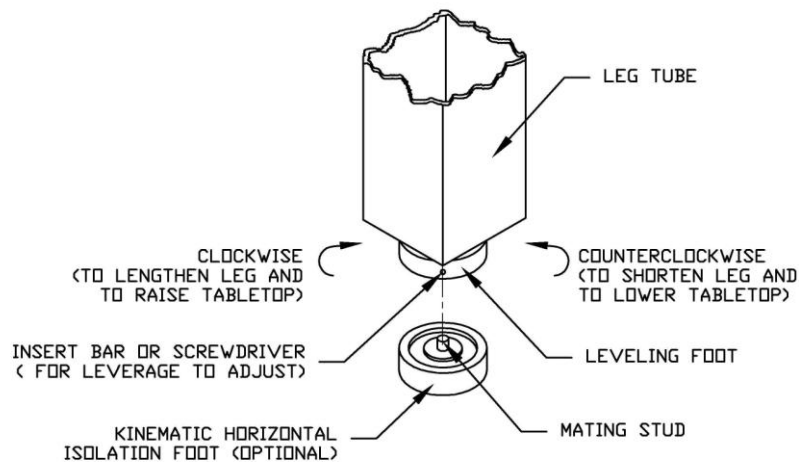
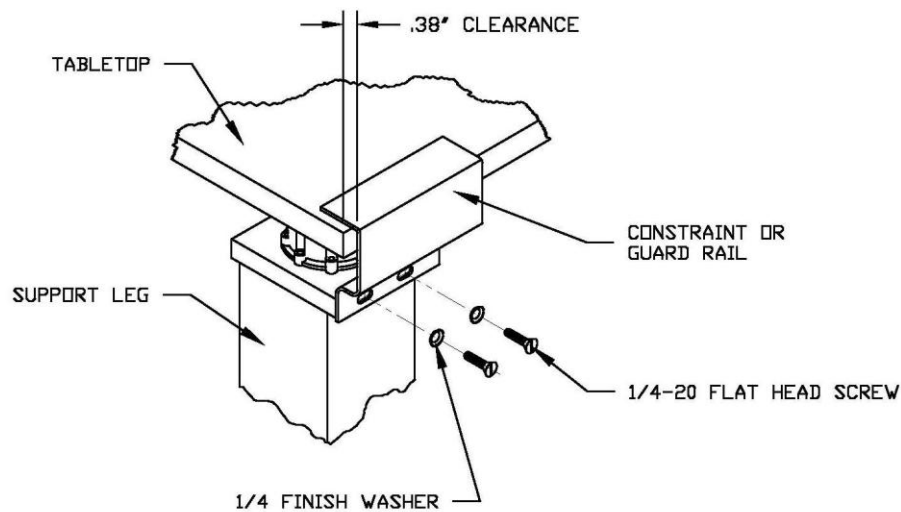

Fig. 2 Leg Height Adjustment
Fig. 3 Installation of Constraint (1202 only) or Optional Guardrail(s).
1. Carefully remove all shipping materials (metal strapping, cardboard, etc.). Additional parts such as four (4) Constraints (1202 only), optional Guardrails, or optional Kinematic Horizontal Isolation Feet have been packed separately inside the shipping container. Set these parts aside for later installation.
2. Remove the protective wood blocks from the bottom of each leg. The four (4) mechanical Leveling Feet are fully retracted for shipping. Rotate each foot **CLOCKWISE** (see Fig. 2) so that it extends $\frac{3}{4}$ " below the bottom of the leg.
4. If you have ordered the optional Kinematic Horizontal Isolation Feet, these should be unpacked and installed now (as shown in Fig. 2). Raise each leg one at a time and insert the projecting stud of the Kinematic foot into the mating hole at the bottom of the Mechanical Leveling Foot. Be sure the Kinematic Foot and the Mechanical Leveling Foot are in perfect alignment.
7. Unwrap the four (4) Constraints (1202 only) or optional Guardrail(s). Hold the Constraints or Guardrails in place, and check for adequate clearance along the edges of the Tabletop. Reposition the Tabletop if necessary.
8. Remove the eight (8) 1/4-20 Flat Head Screws and Finish Washers screwed in at the top of each leg (2 per leg). Remove the white protective paper from the VISCODAMP material laminated on the four (4) Constraints or optional Guardrail(s), and bolt them securely in place as shown in Fig. 3, using the Screws and Finish Washers removed from the legs.
10. If an out-of-level condition is detected, adjust the Leveling Foot by inserting a thin rod or screwdriver (as shown in Fig. 2) into the hole on the side of the Leveling Foot. Rotate COUNTERCLOCKWISE to shorten leg and lower the Tabletop. Rotate CLOCKWISE to lengthen leg and raise Tabletop. After you have leveled the Tabletop all 4 legs should be in contact with the bottom surface of the Tabletop, if any gap is observed rotate the leveling foot clockwise to close the gap.